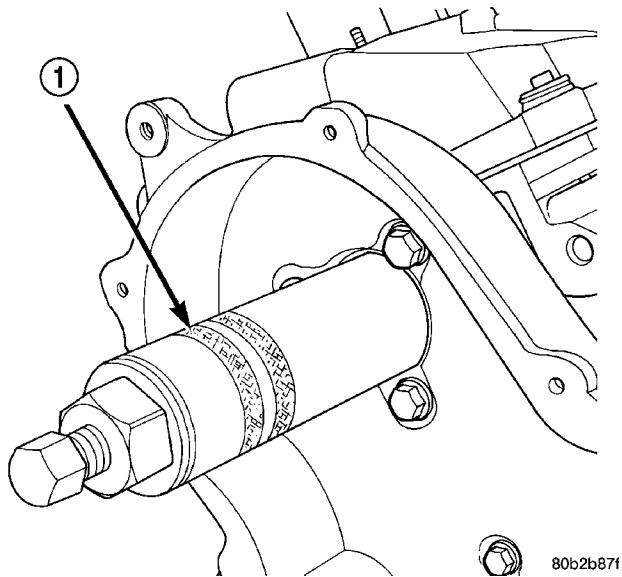

Fig. 16 Camshaft Oil Seal - Removal
(1) Remove camshaft sprocket(s). (Refer to 9 - ENGINE/VALVE TIMING/TIMING BELT/CHAIN AND SPROCKETS - REMOVAL)
(2) Use Special Tool C-3981B to remove camshaft oil seal (Fig. 16).